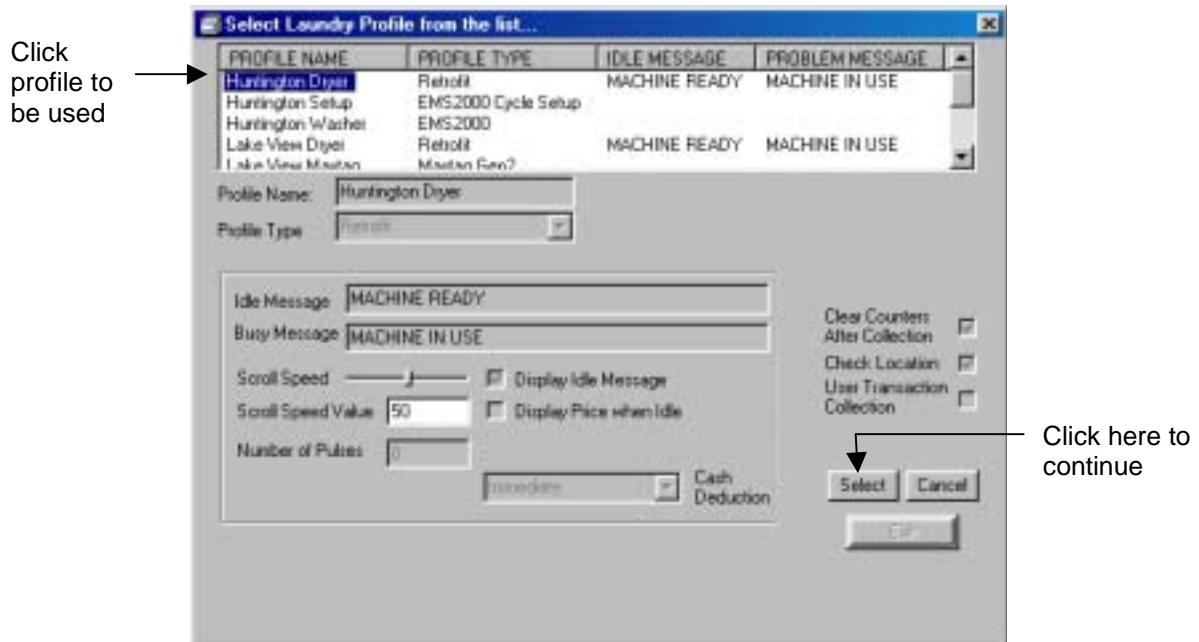

Figure 8.31 Selecting a Laundry Machine Profile
4. Select profile from Profile List Window (Figure 8.31).
5. Review to verify that the profile information is correct, and click the Select button (Figure 8.31).